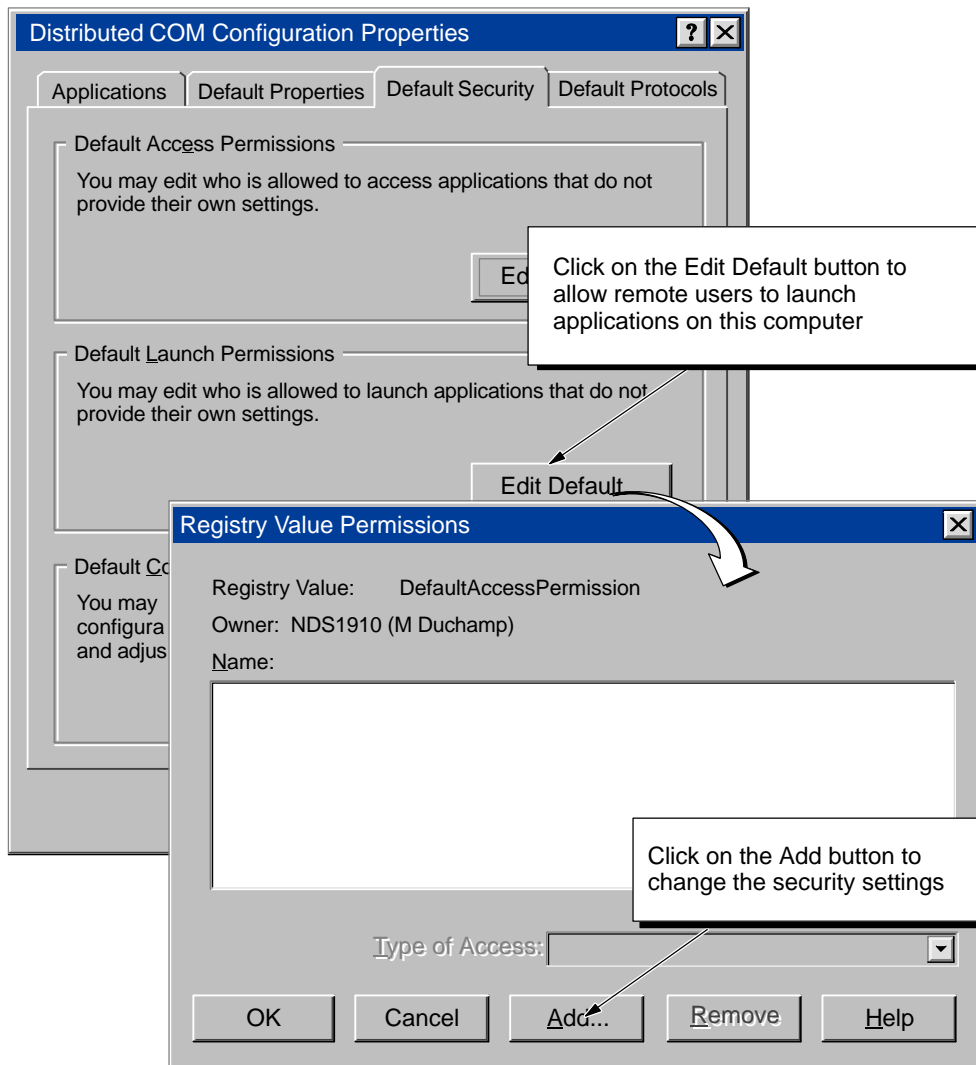

Figure D-6 Configuring the Default Launch Permissions for DCOM
1. Click on the Edit Default button for “Default Launch Permissions” to display the Registry Value Permissions dialog box. See Figure D-6.